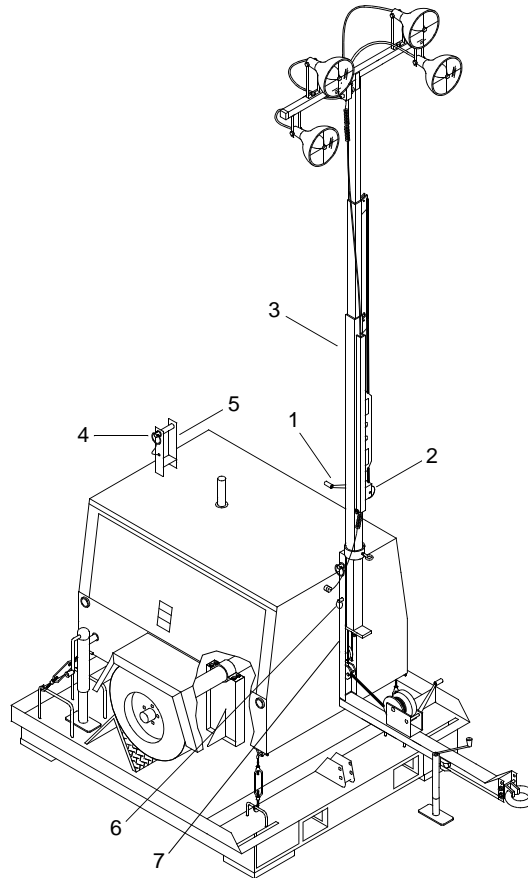

Figure 3. Lowering Light Tower
2. Turn hand crank (figure 3, item 1) on tower winch (figure 3, item 2) counterclockwise to lower tower (figure 3, item 3) from extended position.
3. Remove tower rest retaining pin (figure 3, item 4) from tower rest (figure 3, item 5)
4. Remove lock pin (figure 3, item 6) from tower support (figure 3, item 7)